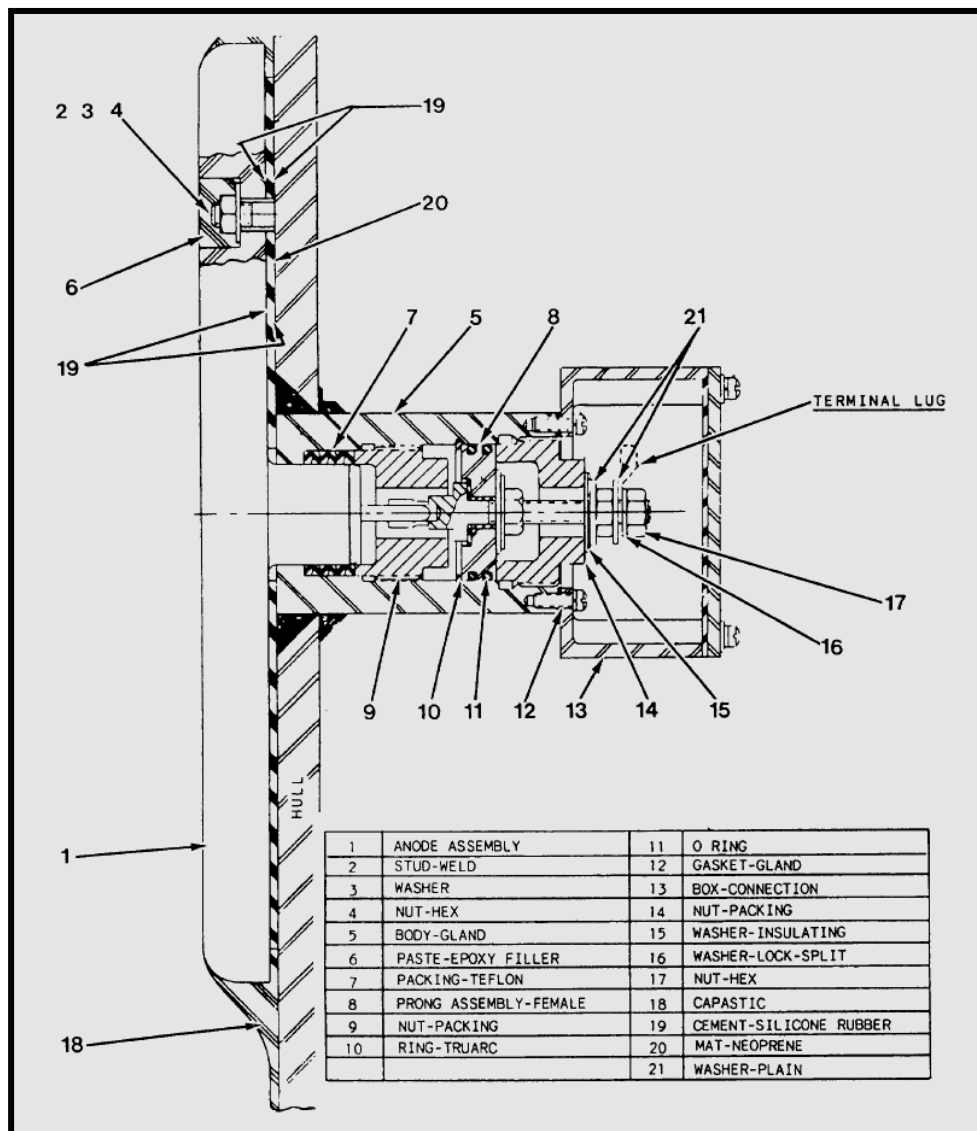

Figure 11-7.— Anode assembly.
**Anodes.**— The anodes (fig. 11-7) are constructed of two platinum-coated tantalum rods mounted in an insulating glass-reinforced polyester holder. Anodes are bolted to the outside of the ship's hull. The direct current flows into the seawater through the platinum surface of the tantalum rods. The platinum surface of the anode corrodes very slowly. The replacement period for anodes is usually 10 years or longer. Anodes are available in the following three sizes: 2 feet (40 amperes), 4 feet (75 amperes), and 8 feet (150 amperes).